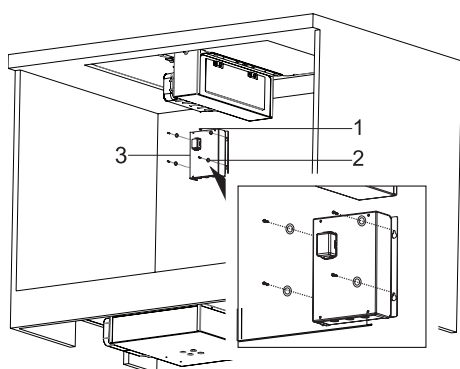

Fig. 33
14. Mount the electronic circuit box inside the kitchen counter with 4 3.9x22 screws with M4 nuts (Fig. 33).